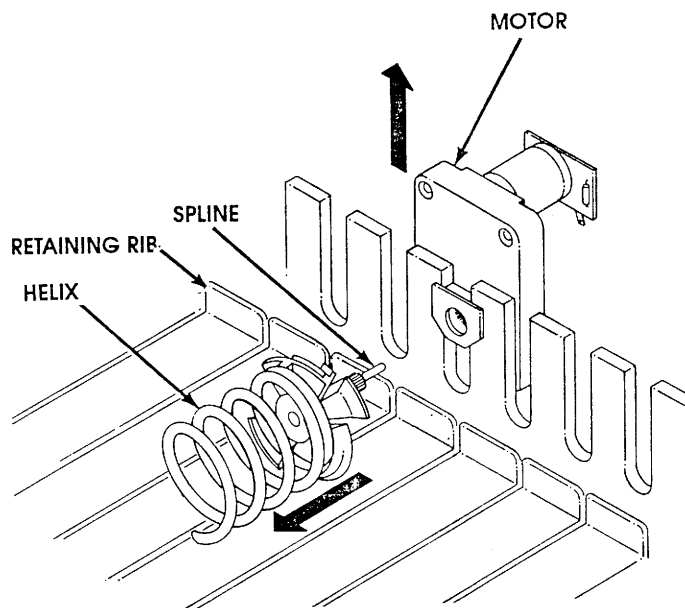

Figure 3
2. Raise the motor slightly and pull forward on the auger until it separates from the motor. See **Figure 3**.